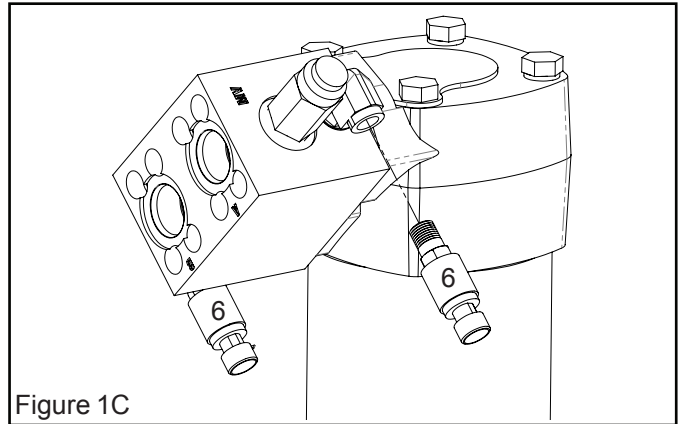

Figure 1C
2 Remove the steel plug caps from the elbows located on the hydraulic motor block. Once the caps have been removed install two transducers (6) as shown in figure 1C.